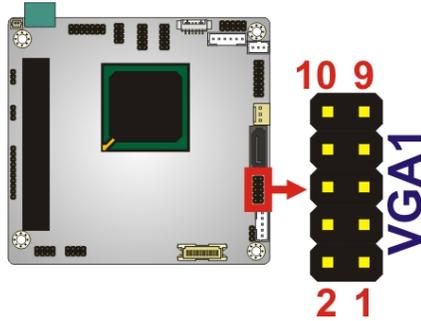

Figure 3-19: VGA Connector Location
- CN Location:** See **Figure 3-19**